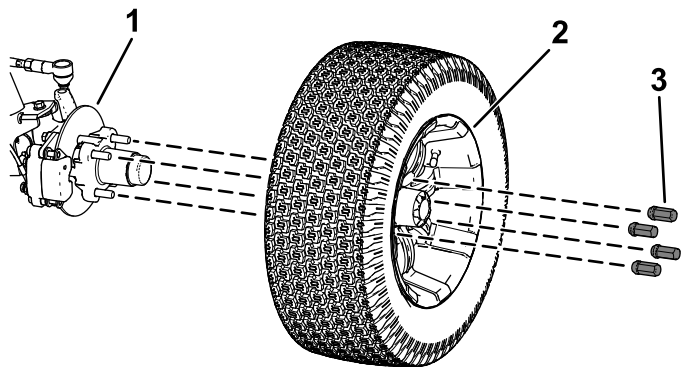

Figure 36
2. Remove the 4 lug nuts that secure the wheel to the hub (Figure 36).
4. Align the holes in the wheel to the studs of the hub and assemble the wheel to the hub with the valve stem outward (Figure 36).
5. Secure the wheel to the hub using the lug nuts (Figure 36).